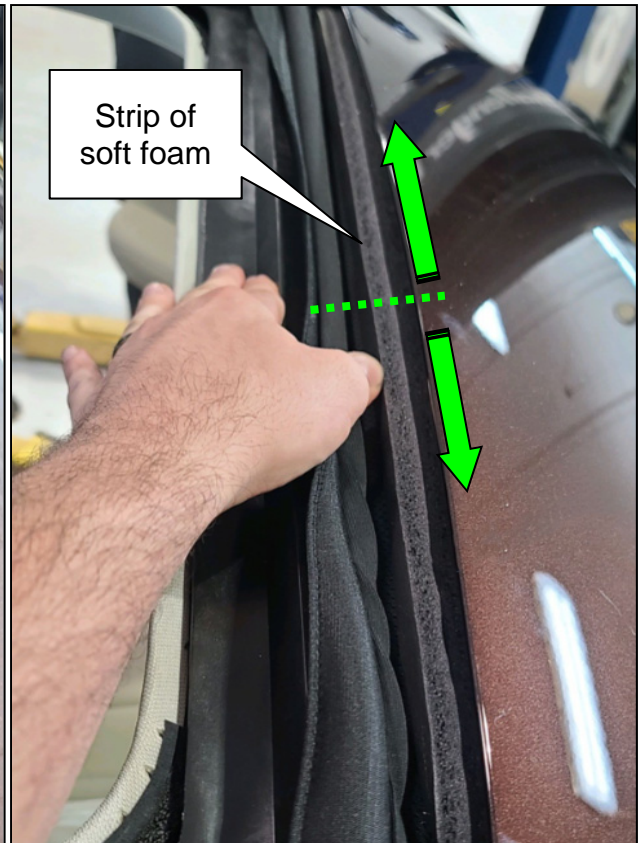

Figure 7
- Starting in the center and working out to the edge, insert the soft foam between the sunroof plastic frame and the lower edge of the sheet metal (Figure 7).